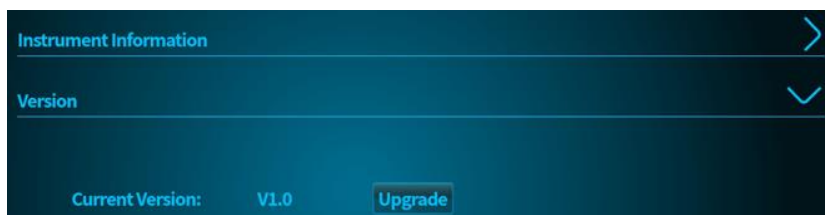

Figure D-7.2 About – Version
2. **Version:** Users can view the current software version, and click < **Upgrade** > to complete the version upgrade, as shown in figure D-7.2.